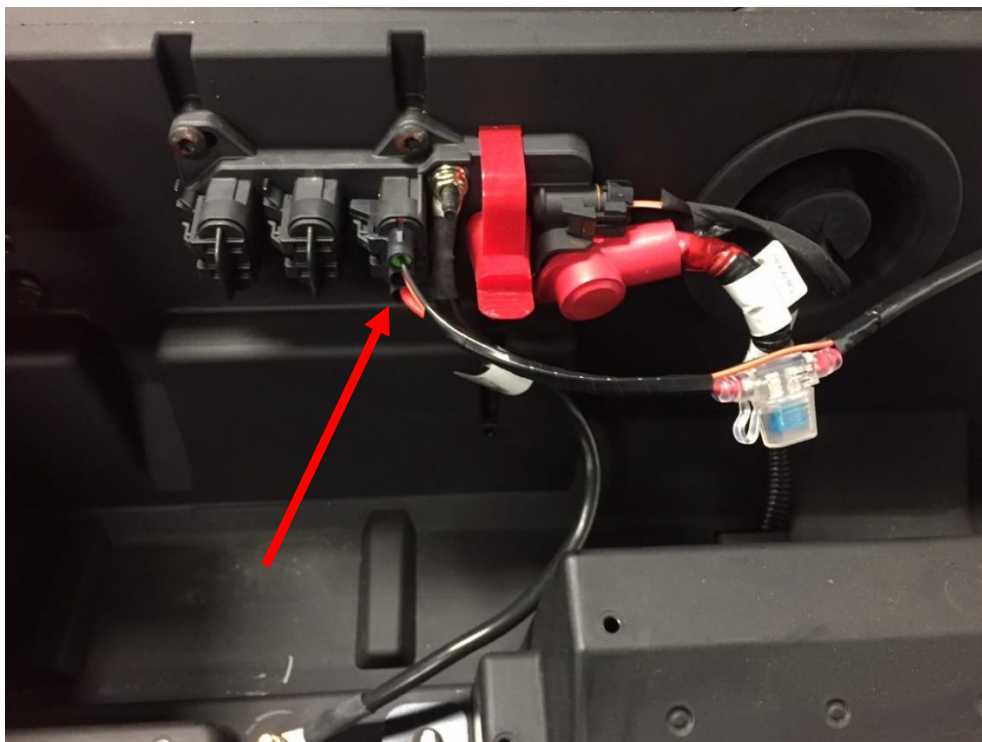

Figure 16: Accessory port connection.
12. Plug the chassis harness into the factory accessory port. **Note: All accessory ports will power the unit, if you are already using any ports for other accessories.** See Figure 16.